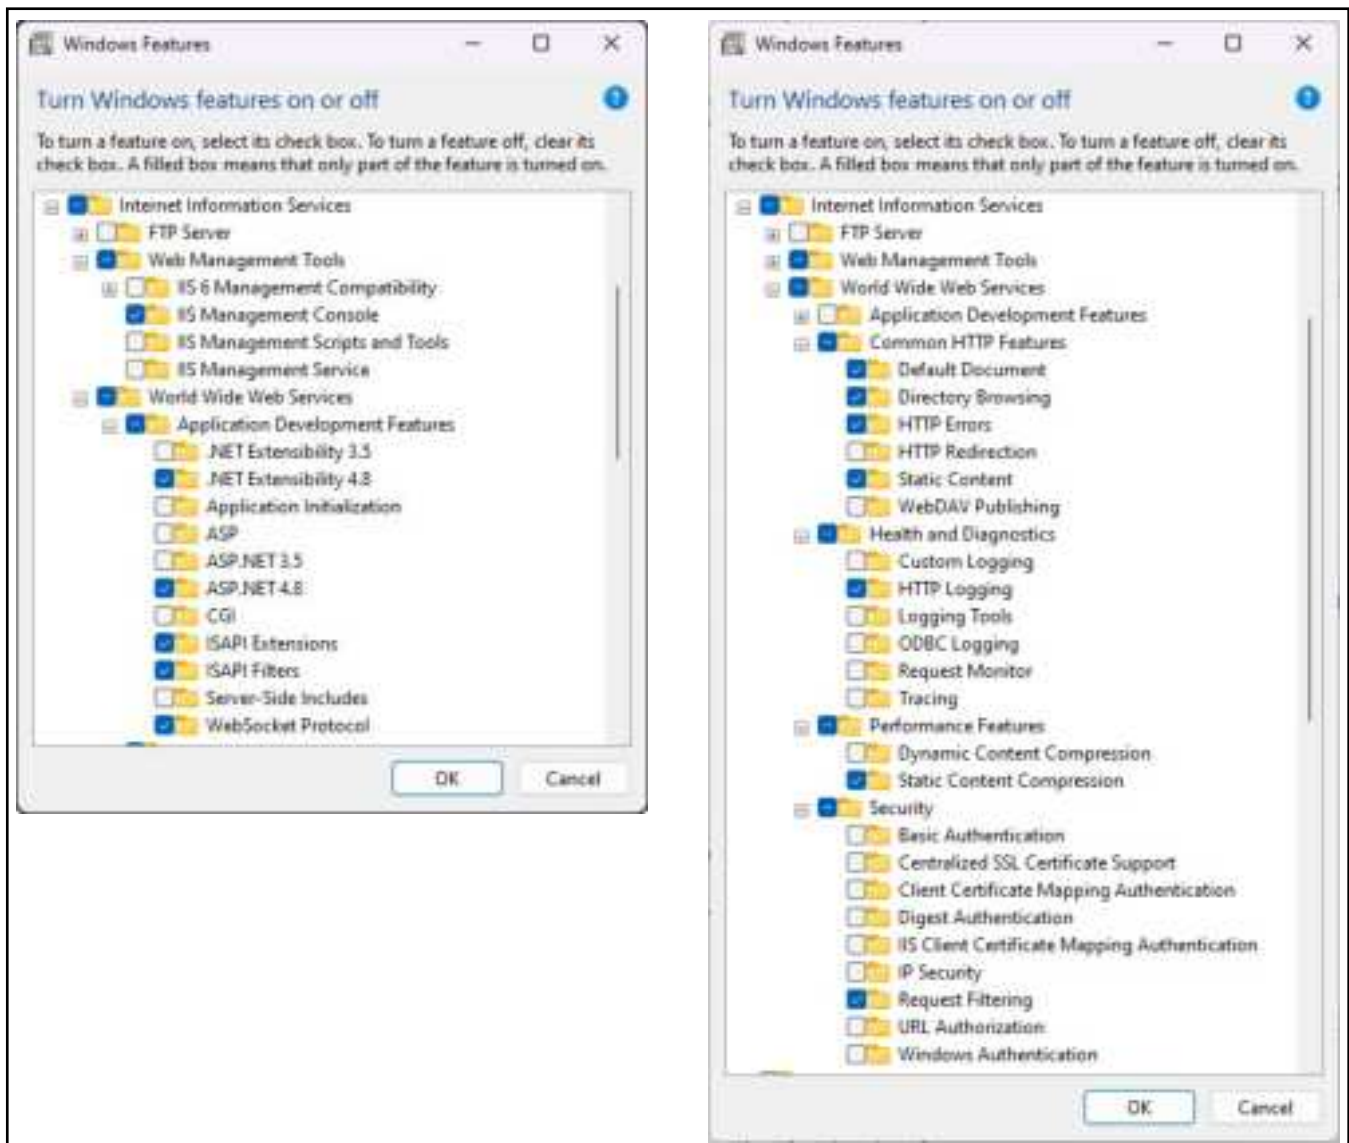

Figure 2-17. Windows Features Configured
- B.1 Windows Features window displays (see Figure 2-17 on page 16).
- B.2 Expand **Internet Information Services** tree and enable check boxes as displayed in Figure 2-17.